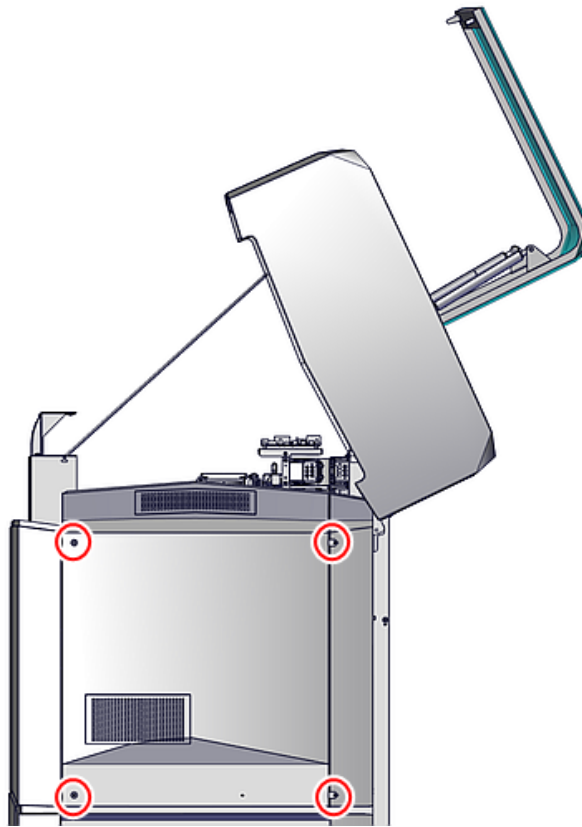
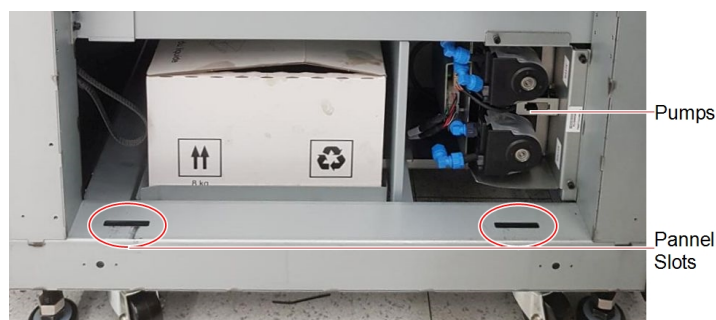

Figure 4-134 Right printer panel
Figure 4-135 Panel removed
26. Install the pump housing in the printer (see Figure 4-135 on page 4-93), making sure not to pinch or damage the tubes.
First, fit the brackets on the bottom of the panel into slots in the printer chassis (see Figure 4-135 on page 4-93). Then, push the panel into place and secure it with the screws (see Figure 4-134 on page 4-93).